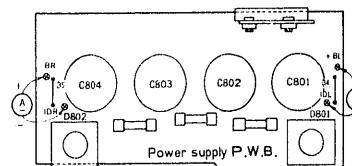

Fig. 6
For adjusting the Rch, delete the jumper wire ⑤, and connect the  $\ominus$  side to the IDR terminal and the  $\oplus$  side to the  $-BR$  terminal. Next, adjust them using R708L or R718R of the main amp. PWB respectively for 200mA. Install jumper wires ④, ⑤ again after the adjustment is completed. (Figs. 6 & 7)